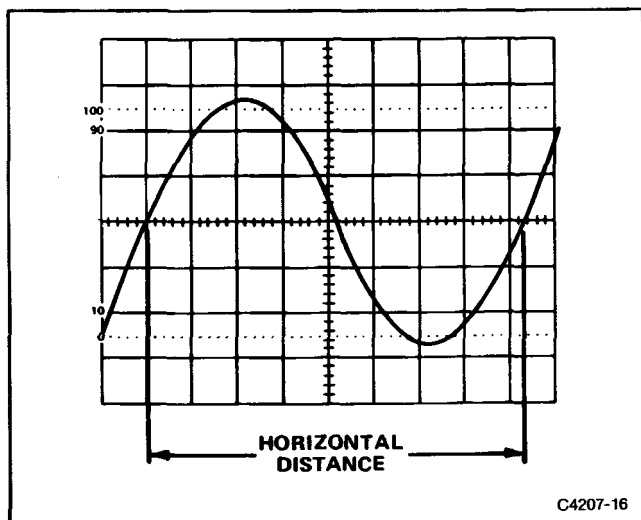

Figure 4-5. Time duration.
5. Position the display to place the time-measurement points on the center horizontal graticule line (see Figure 4-5).
EXAMPLE: The distance between the time measurement points is 8.3 divisions (see Figure 4-5), and the SEC/DIV switch is set to 2 ms per division. The X10 Magnifier is off (knob in).
EXAMPLE: The signal in Figure 4-5 has a time duration of 16.6 ms.